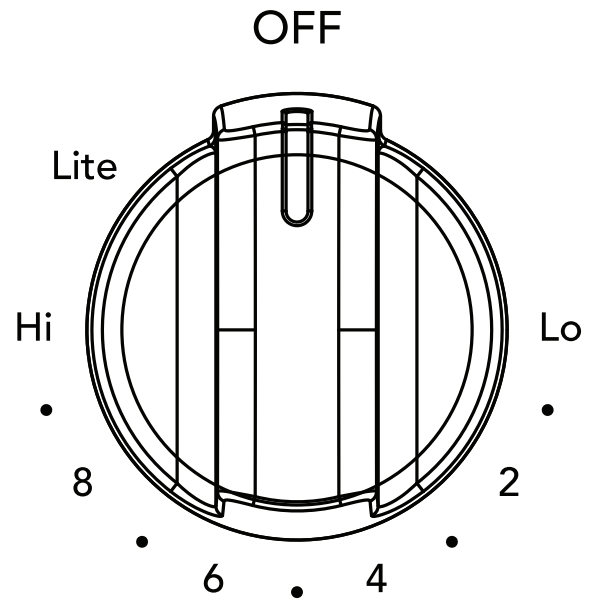

Figure 8: Surface control knob
2. Push the burner's surface control knob in and turn counterclockwise out of the OFF position (Figure 8).